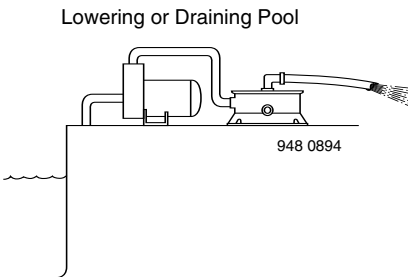

FIGURE 17
3. lowering water level in pool or spa/tub (see Figure 17).